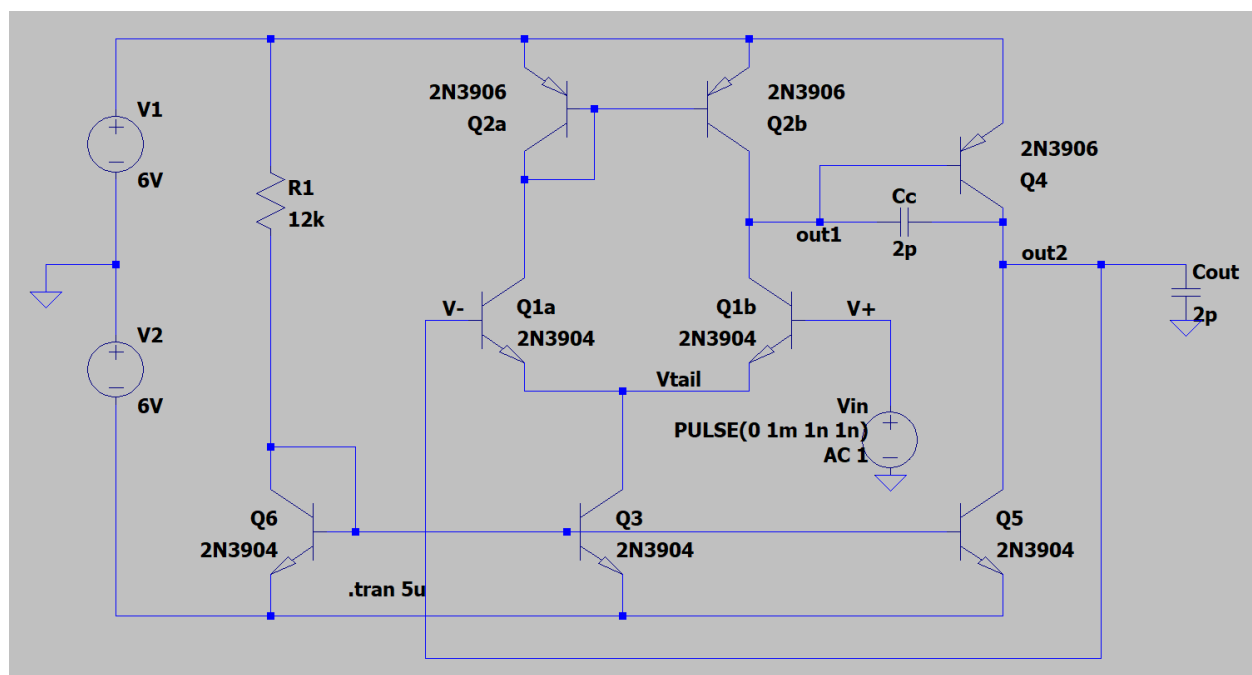

Figure 1: The op amp in unity gain feedback. Capacitors C_c and C_{out} represent typical parasitics for a breadboard.
- (1) Use LTspice on the file `BJTopampUnityFB.asc` to simulate the amplifier in unity gain feedback, as shown in Figure 1. This amplifier is unstable in unity-gain feedback.
- (2) Still using LTspice on the file `BJTopampUnityFB.asc`, we now want to stabilize the amplifier by moving the poles around.